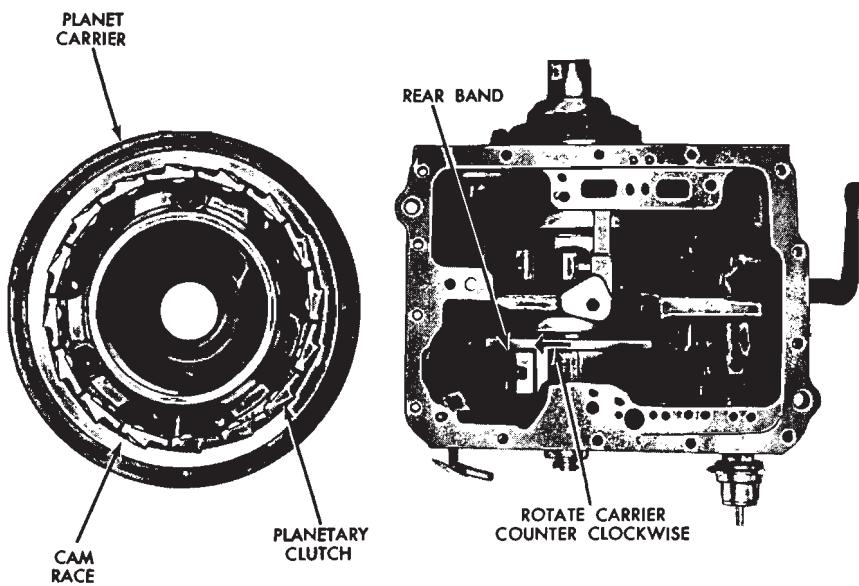

FIG. 56—Planetary Clutch Installation in Carrier—Chamfered Center Support
4. Install the planetary clutch in the carrier (Fig. 56).
6. While applying forward pressure on the planet carrier, rotate it counterclockwise, as viewed from the rear (Fig. 56). This will cause the clutch rollers to roll toward the large opening end of the cams in the race, compressing the spring slightly, so that the rollers will ride up the chamfer on the planetary support and onto the inner race.